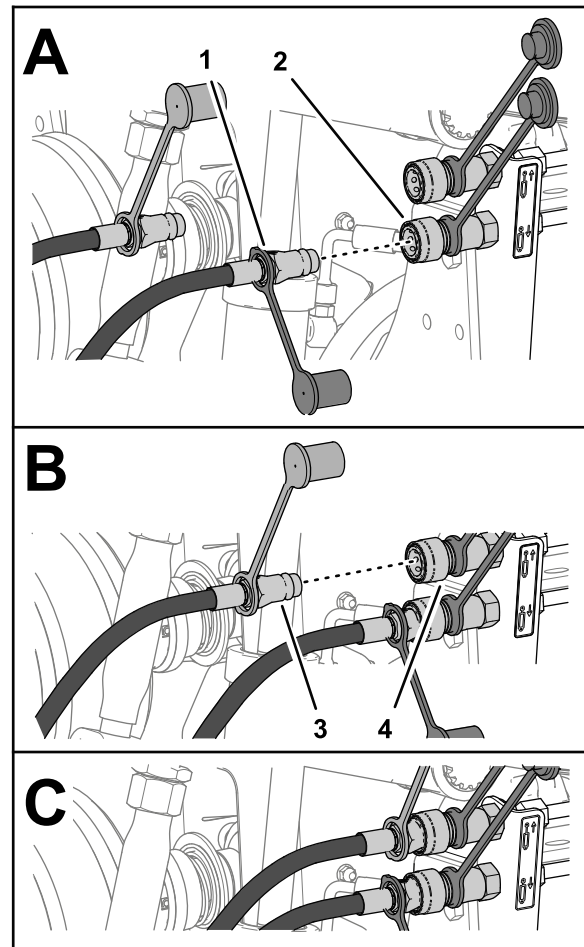

Figure 27
4. Connect the quick-connect fitting cylinder extend hose to the quick-disconnect coupling rear-attachment-lower circuit (Figure 27).